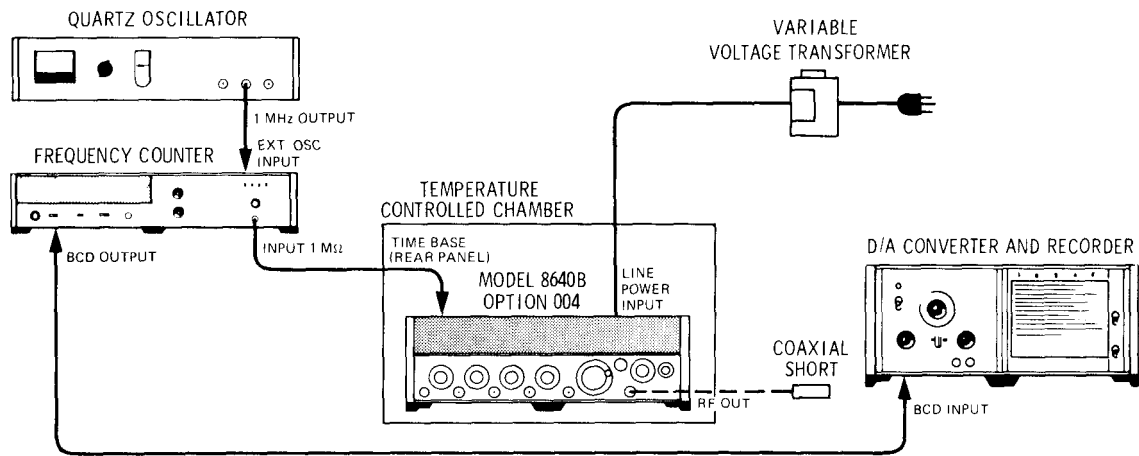

Figure 4-34. Internal Reference Drift Rate (Stability) Test Setup
- Connect equipment as shown in Figure 4-34 after setting Signal Generator's controls as follows: